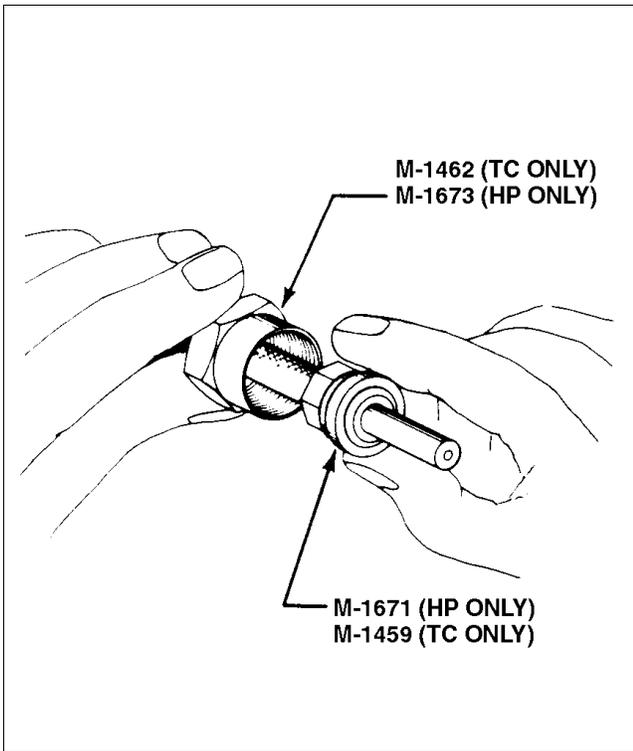

Figure 74-20. Installation of Plug Endnut
7. On spark plug end of wire install M-1673 (HP only) / M-1462 (TC only) nut followed by M-1671 (HP only) / M-1459 (TC only) female taper hex ferrule. (Refer to Figure 74-20.)